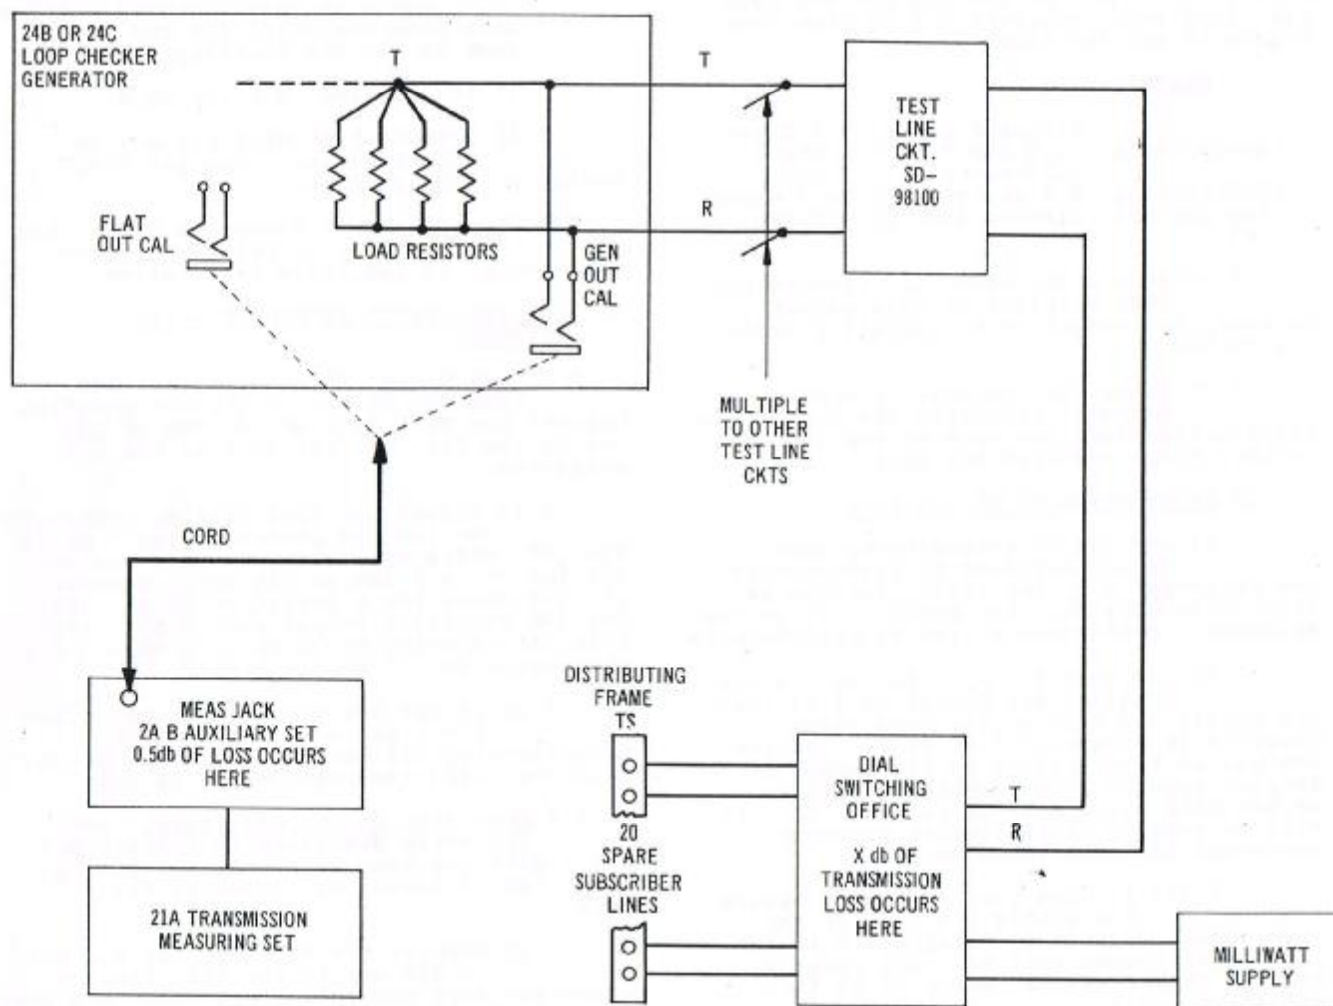

FIG. 1 TEST SETUP FOR OFFICE TRANSMISSION LOSS
1.12 The tests also cover operation and transmission requirements of the associated Transmission Test Line Circuit SD-96100 Figures 1, 9, 45, 55 or 56, and 29, 30, 31, 33 or 34.
NOTE 1: See Figure 1. The Loop Checker Generator is supposed to deliver a specified amount of db power, through the dial switching office, to an average subscriber line. In order to adjust the Loop Checker Generator for the correct amount of output db power, the db power loss through the switching office to an average subscriber line must be measured. Paragraph 7 tells how to make the measurement, using the office milliwatt supply.